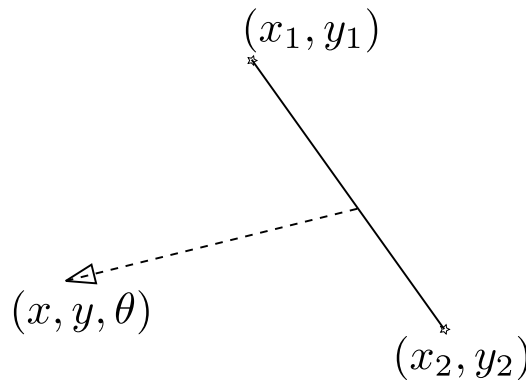

Figure 4: Distance to a segment defined by two points.
2. Compute the distance to the nearest wall. In the environment variable, the walls are defined by a list of points available in `envir.walls`. Fig. 4 shows a configuration where the sensor is at  $(x, y, \theta)$  and is facing a wall defined by  $(x_1, y_1)$  and  $(x_2, y_2)$ . In this case, the distance to the wall is: